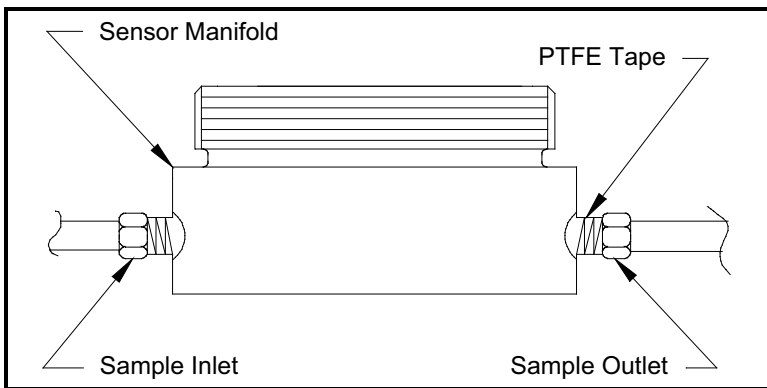

Figure 4: Sensor Manifold Installation
3. Using PTFE tape as a sealant, connect the sample gas inlet and outlet to the 1/8" NPT ports on the sensor manifold (see *Figure 4* below). Either port may be used as the inlet or the outlet, as the direction of flow does not matter.